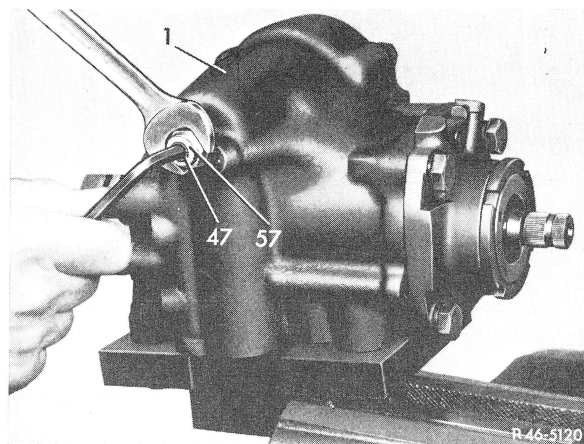

Fig. 4
- 4 In center position of steering, turn adjusting screw (47) to the left, which will force pitman shaft including housing cover out of steering case (Fig. 4).